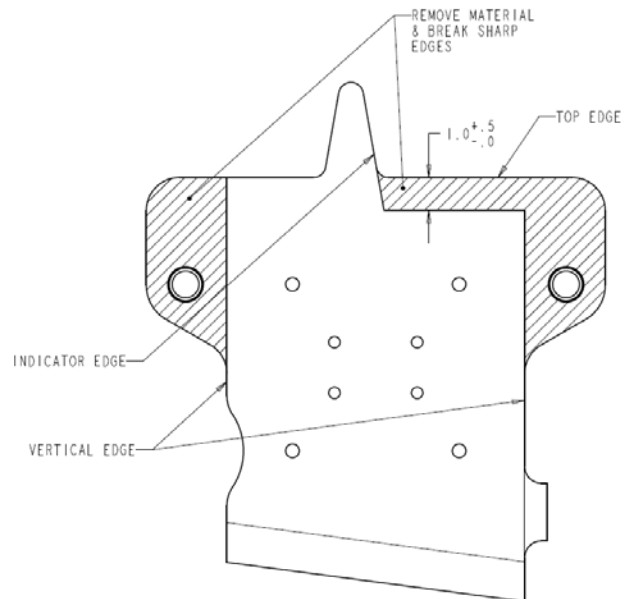

Figure 4. Shield Pre-2009
- 7.5.3 If pre-2009 shield is inspected, see Figure 4, and accepted per the criteria above, the shield may be cut flush along the vertical edges, flush along the indicator edge and top edge, and reused. All sharp edges must be broken, and sharp corners rounded.